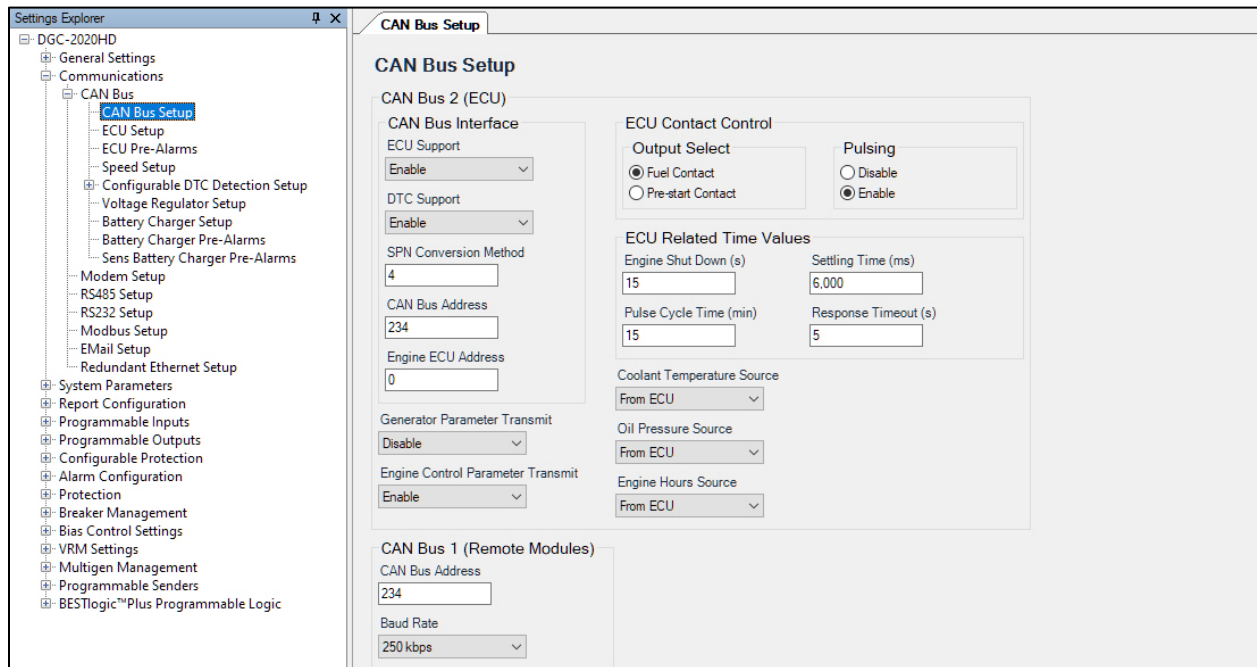

Figure 5. CAN Bus Setup
On the CAN Bus Setup page shown in Figure 5, ECU support needs to be enabled if the DGC-2020HD will communicate with an engine ECU. DTC support must be enabled if the DGC-2020HD will receive DTCs sent to it from the engine ECU. Four (4) is the most common SPN conversion method, but it should be changed if necessary. Some engine manufacturers specify a J1939 ECU address for transmitting requests to the engine ECU. These include RPM requests to run the engine at a specific speed, engine start requests, and engine stop requests. Engine control parameter transmit needs to be enabled if the controller will send control requests to the engine ECU. On the list shown in Table 1, the CAN Bus address is user selectable for some ECUs. The standard ECU is listed for ECU types that are not included in Table 1.